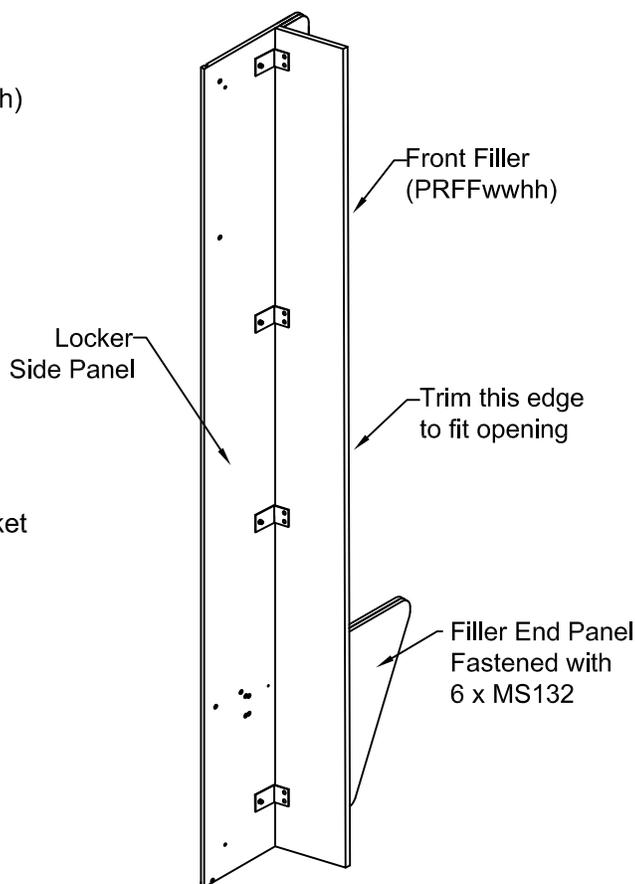

Figure 3.2: Installed Front Filler
- 5.4 Place front filler panel against the back of the filler end panel, then mark hole locations on side panel using front filler bracket holes. Drill located holes with a $\frac{1}{4}$ " drill through the side panel. Then fasten front filler assembly to locker side panel from inside the locker, see Figure 3.2.